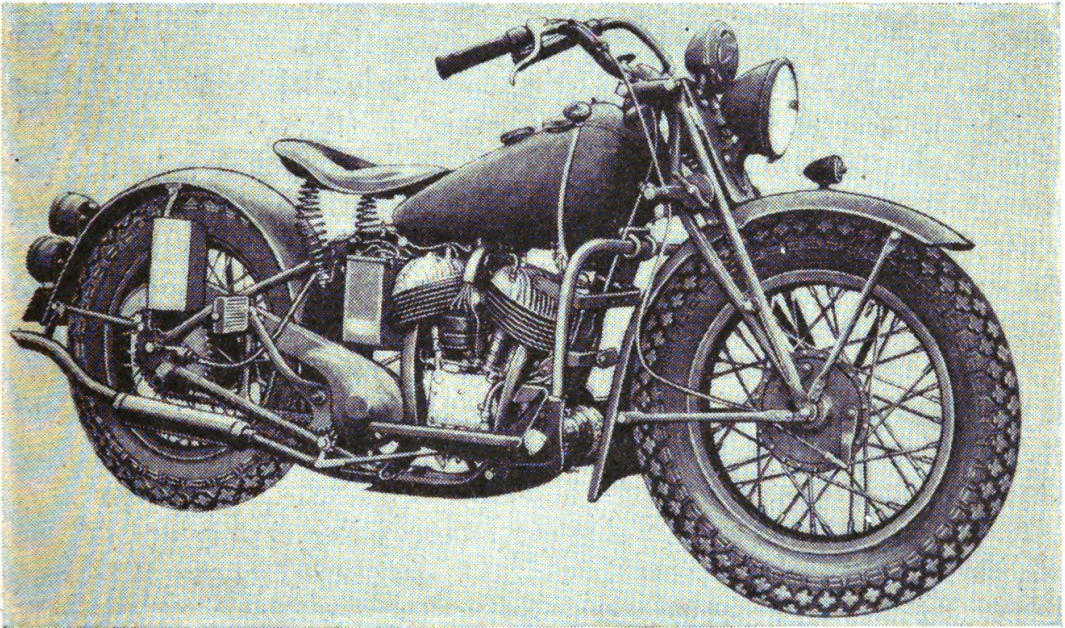

FIGURE 1.—Solo motorcycle (chassis type—2 x 1).
**3. Construction.**—*a.* In many respects, a solo motorcycle (fig. 1) is similar in appearance to a bicycle. Two wheels support and are connected by a frame. The vehicle is steered by handle bars which turn the front wheel. The rider sits on a saddle which is mounted on the frame, above and in front of the rear wheel. A chain or shaft transmits the power to the rear wheel. All shaft-driven motorcycles being supplied to the Army are solo models.